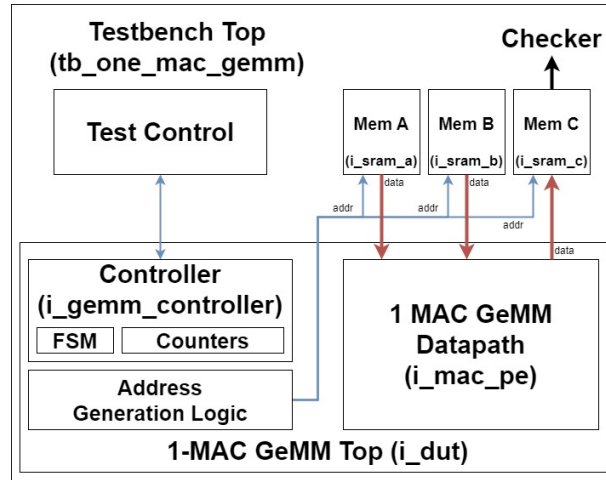

Figure 3: 1-MAC GeMM testbench details
- Fig. 3 shows the instance details of the setup for the 1-MAC GeMM along with the instance names, which you could follow along by inspecting the appropriate codes.